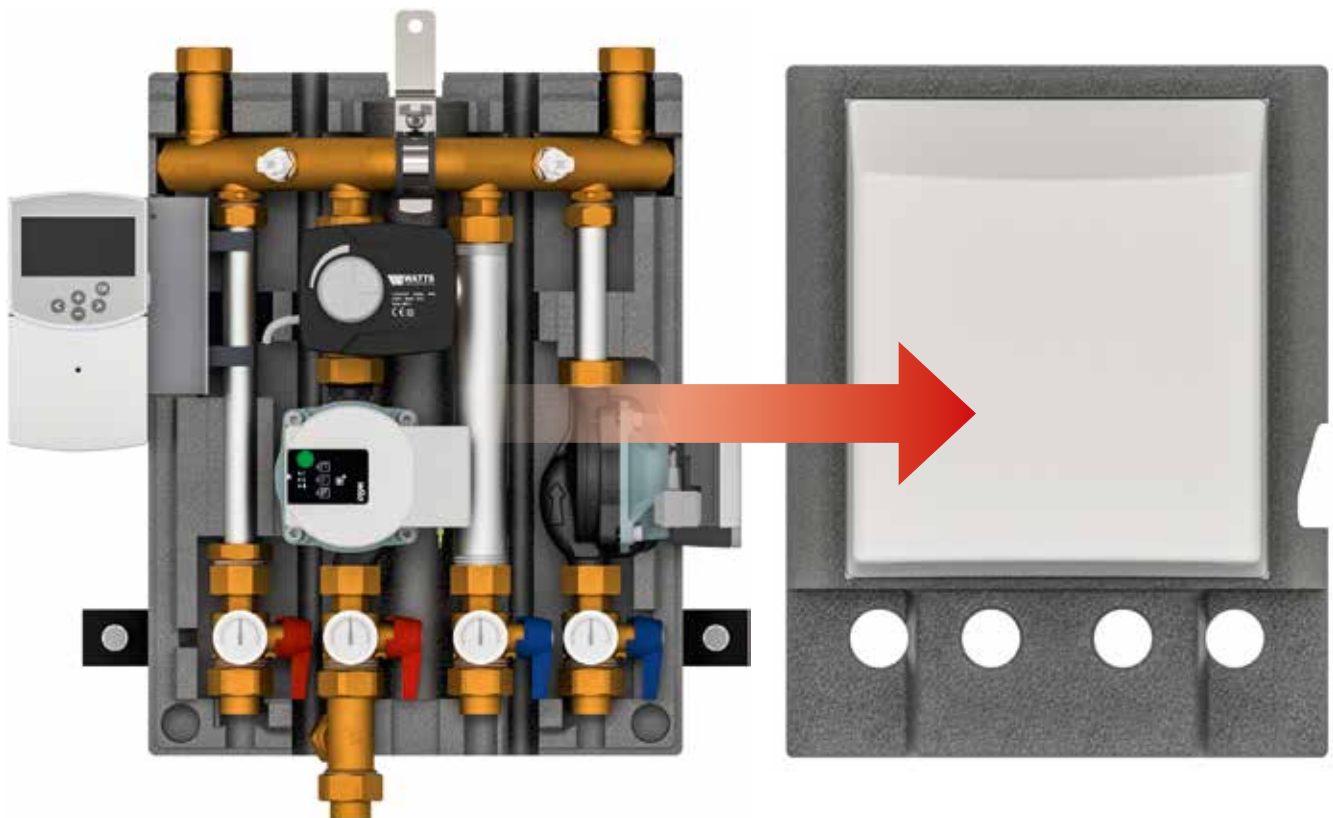

Fig. 2: Removing the front cover
- Remove the front cover on the Wattmix control station (see Fig. 2 on page 6).